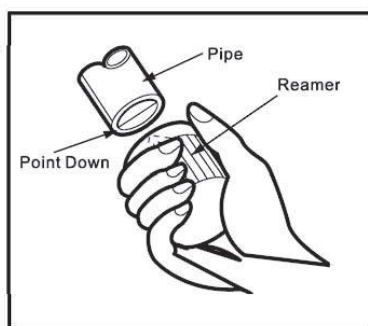

Fig. 6
- Remove burrs on the cutting edges. Keep the pipe outlet down to avoid the metal powder into the pipe (Fig. 6).